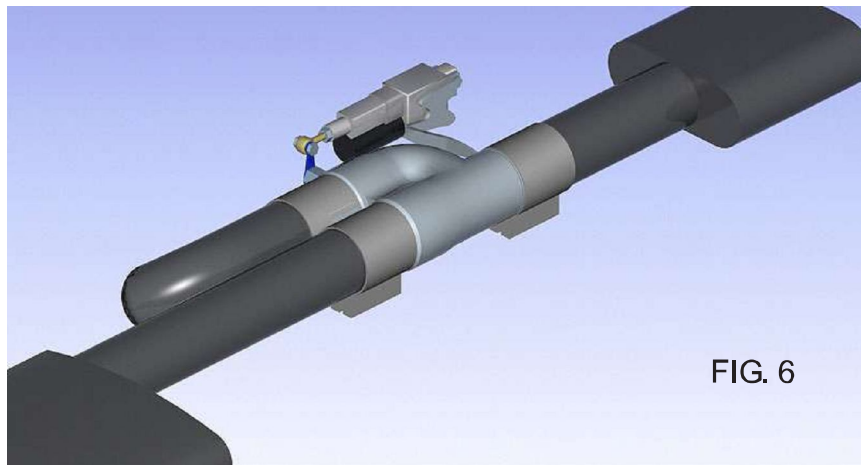

FIG. 6
**STEP 8-** YOU ARE NOW READY TO INSTALL PIPE FOR DIVERTED EX-HAUST. (SEE FIG. 6) THIS PIPE MAY OR MAY NOT INCLUDE A PERFORMANCE MUFFLER. **\*RACE OR OFF ROAD ONLY IF MUFFLER IS NOT USED\***